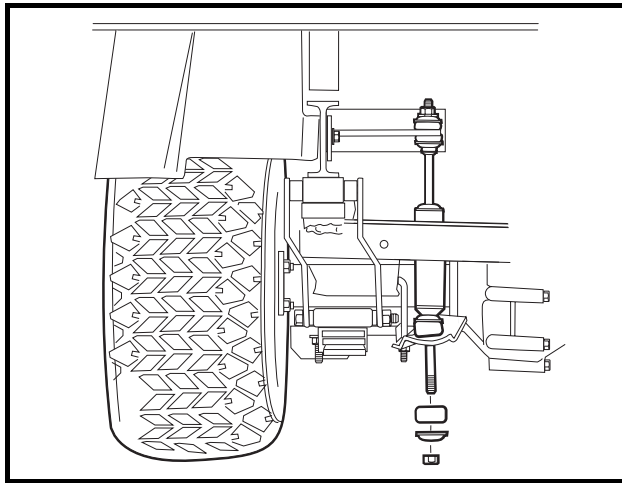

Figure 19-41 Shock Absorber
16. Position shocks in the shock mounts and install cushions, mounting washers and nuts (**Figure 19-41, Page 19-16**). Tighten nuts until cushions expand to be the same diameter as the mounting washers.